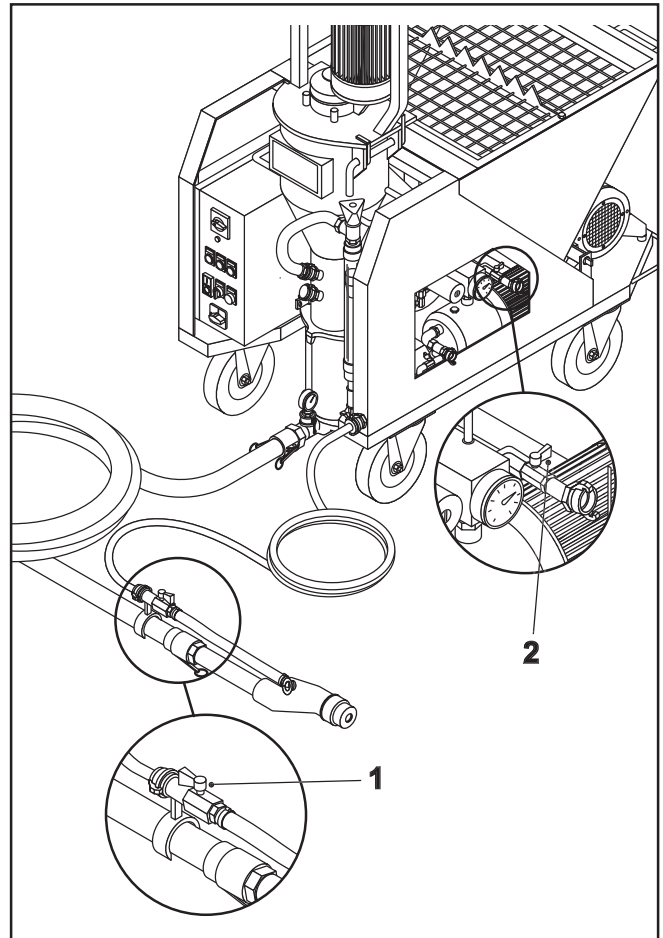

FIG.17
- Check that the air cock (FIG.17-REF.1) of the gun is open and the water service cock (FIG.17-REF.2) is closed.